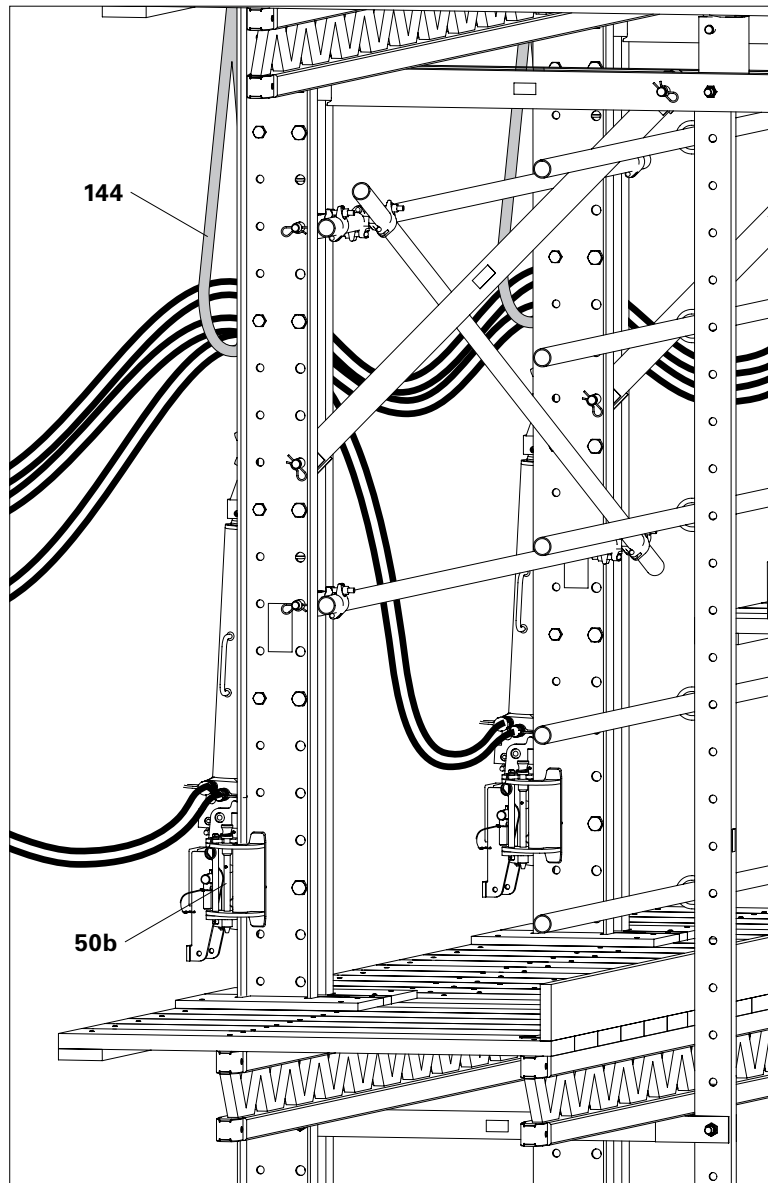

Fig. D7.02
Climbing is controlled from the intermediate platform of the adjacent climbing unit. (Fig. D7.02)
3. Pull through the hydraulic hoses between the wall and the climbing rails ensuring there are no loops and suspend them on the Wall Shoes with suitable means, e.g. rope or Tension Belt (**144**). (Fig. D7.02)